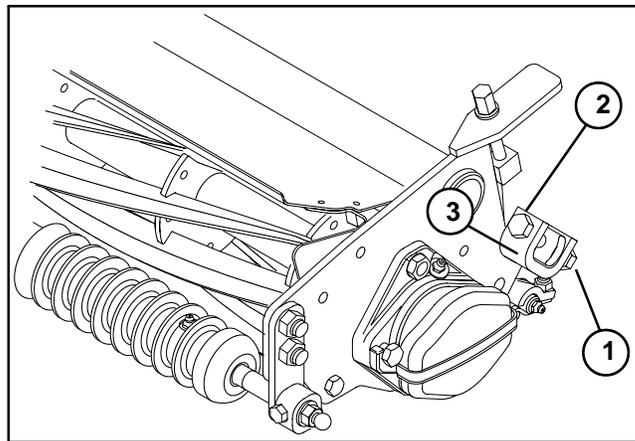

Figure 11
IMPORTANT: Use only a 13mm wrench, 3 to 6 inches (7.5 to 15 cm) in length, when adjusting the hex head screws. A longer wrench will provide too much leverage and may cause distortion of the mounting plate (Fig. 11).
3. Position cutting unit with the front roller up (Fig. 11).
4. After adjusting bedknife to reel, make sure that both top and bottom adjusting screws are secured against the bedbar tabs on each end of the cutting unit (Fig. 11).